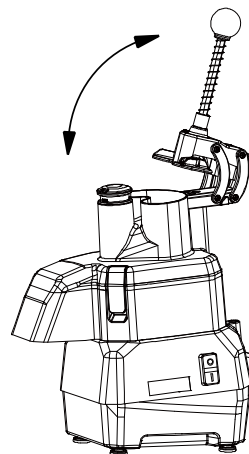

Fig.7
4.4.3.7 Lift the arm up and down to check whether the machine is in good condition. as shown in Figure 7.